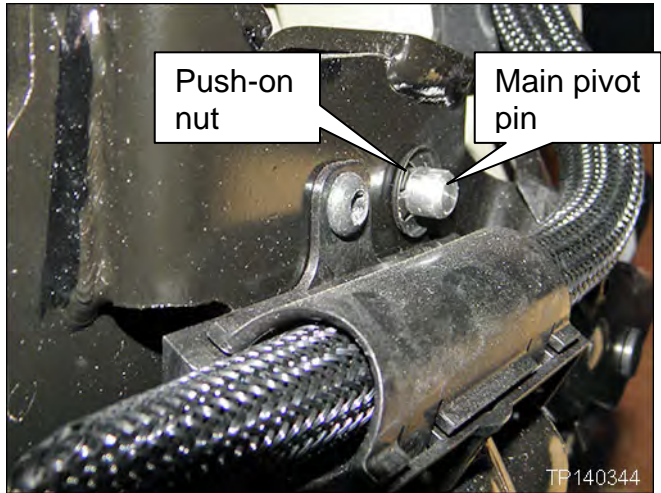
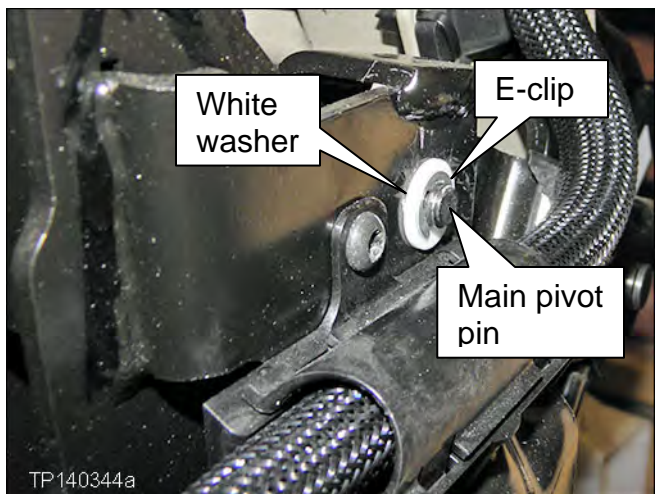

Figure 39
Figure 40
**NOTE:** During removal, you may find that this pin has a push-on nut as shown in Figure 39, or an E-clip as shown in Figure 40.
- Make sure to install the new pin with white washer and E-clip as shown in Figure 40.